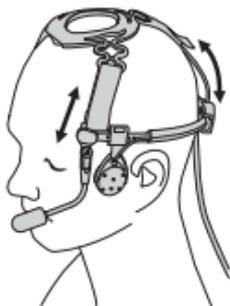

Figure 2: Wearing the Heavy Duty Temple Transducer
1. Wear the Heavy Duty Temple Transducer as shown in Figure 2.